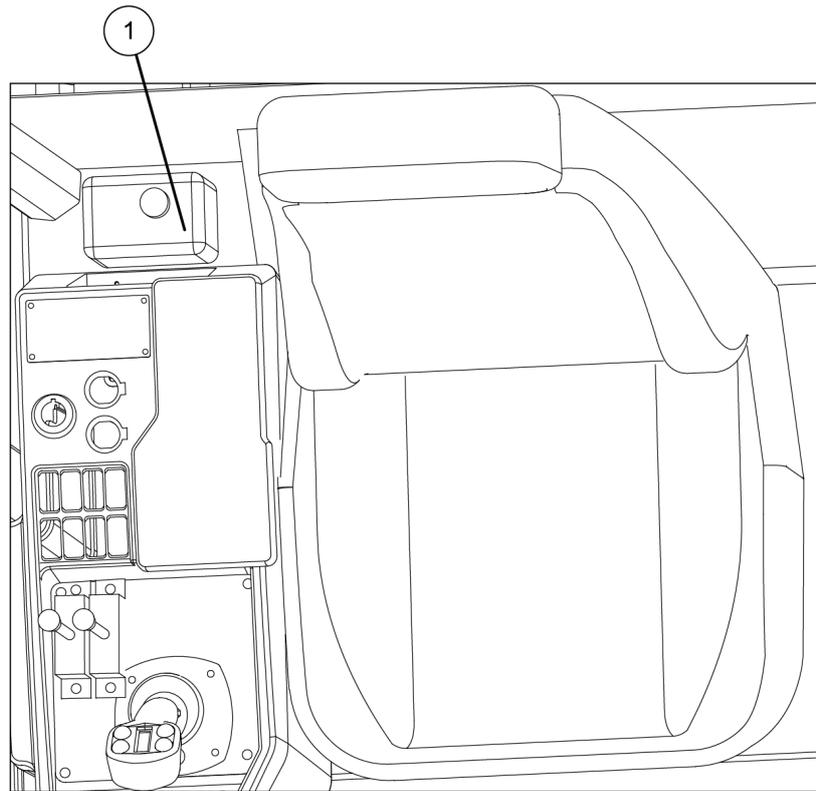

Figure 6-39 Cleaning liquid tank
(2) Drain valve
Step 5: Tighten the drain valve (2), add the coolant to the upper limit, and tighten the cap (1);
Step 7: After the engine is sufficiently cooled, remove the cap (1), and add the coolant to the upper limit.
Step 2: Check cleaning liquid level in cleaning liquid tank (1). If liquid level is lower than 1/3 of height of cleaning liquid tank, add same type of cleaning liquid, and cleaning liquid level should not be higher than 2/3 of height of hydraulic tank, as shown in Figure 6-39;